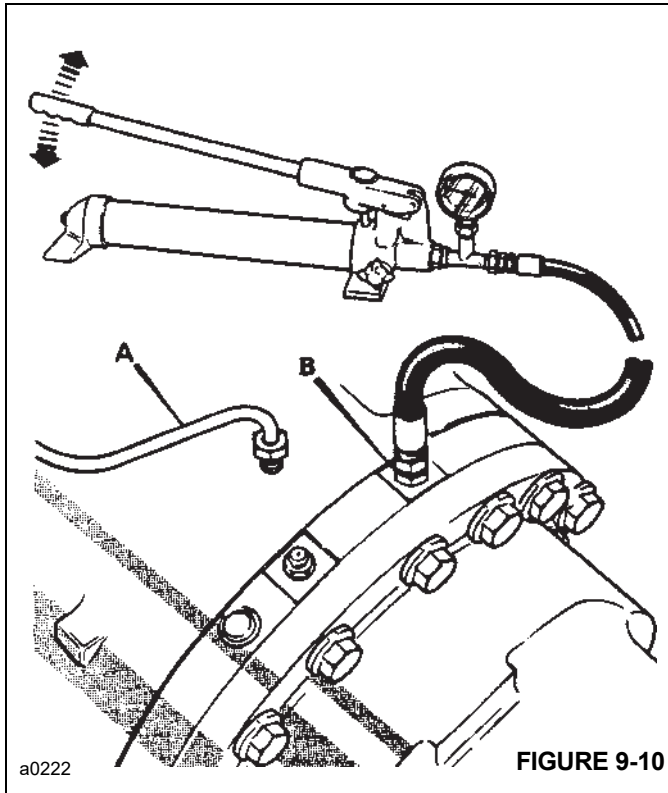

FIGURE 9-10
2. Remove and cap the brake piston feed line **A** Figure 9-10.
- b. Install the hand pump fitted with a 0 to 68.90 bar (0 to 1000 psi) pressure gauge to port **B** Figure 9-10.